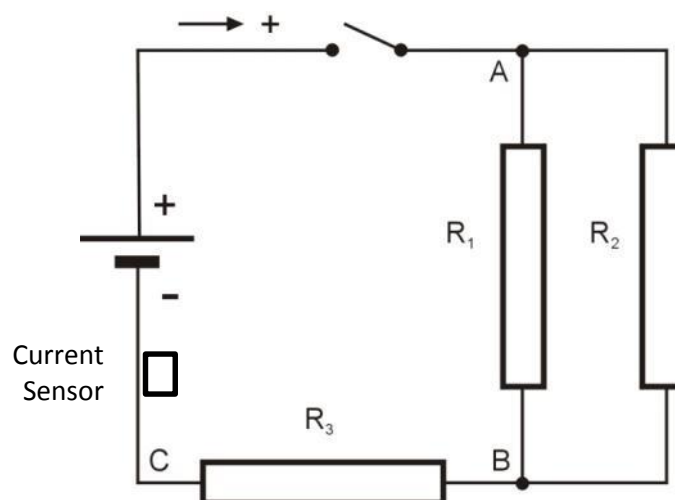

Figure 2
If there are more than two resistors in a network they may be connected in a combination of series and parallel connections. Figure 2 shows two resistors R_1 and R_2 connected in parallel. They in turn are connected in series with R_3 . The arrow indicates the positive direction of the current.
7. Connect the Voltage sensor between points A and C (see Figure 2).